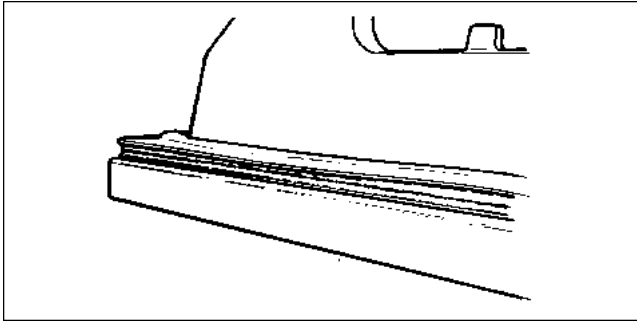

Figure 165
5. Roll gasket back in place and be sure it has a smooth outer edge. See Figure 165.